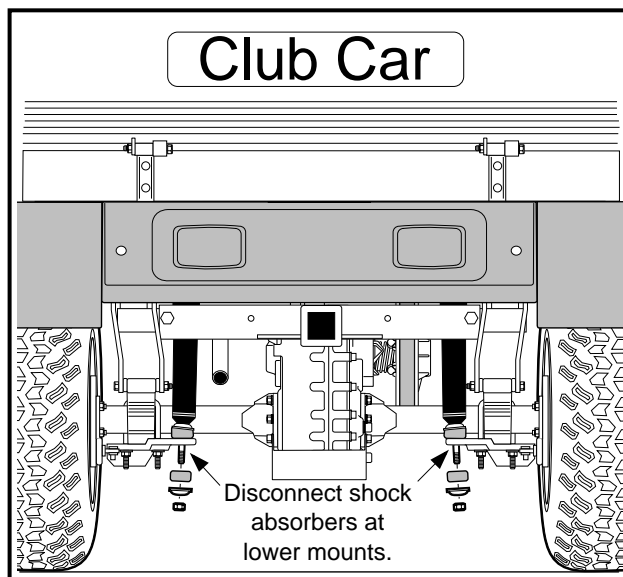

Figure 16-20 Shock Absorbers
5. Remove the lower shock mounting hardware from both rear shocks (**Figure 16-20, Page 16-10**).